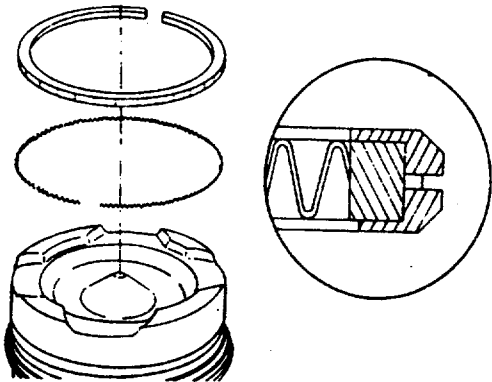

FIGURE 4-39. Oil Control Ring.
- (2) A cross-sectioned view of an oil control ring is shown. The two-piece oil control ring must be installed with the expander ring gap 180 degrees from the gap of the oil ring (FIGURE 4-39) .